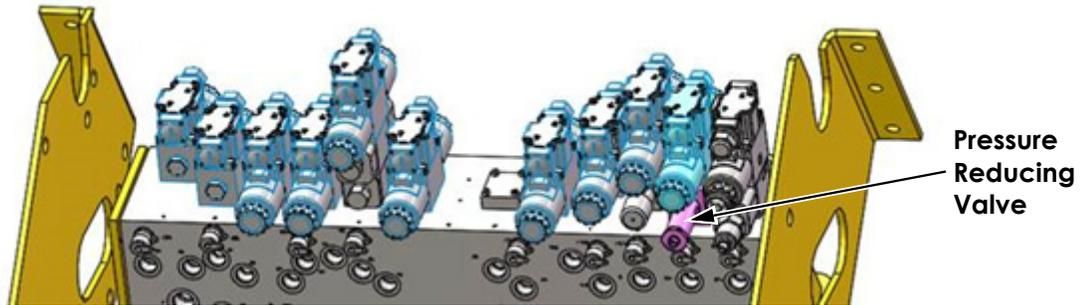

Figure 5: Pressure reducing valve
- Unscrew the fasteners to remove the pressure reducing valve (PRV) as shown in Figure 5. If the check valve is not available then install the BUW valve bank using the socket head fasteners (Carrig P/N: SH-10-24-0200).